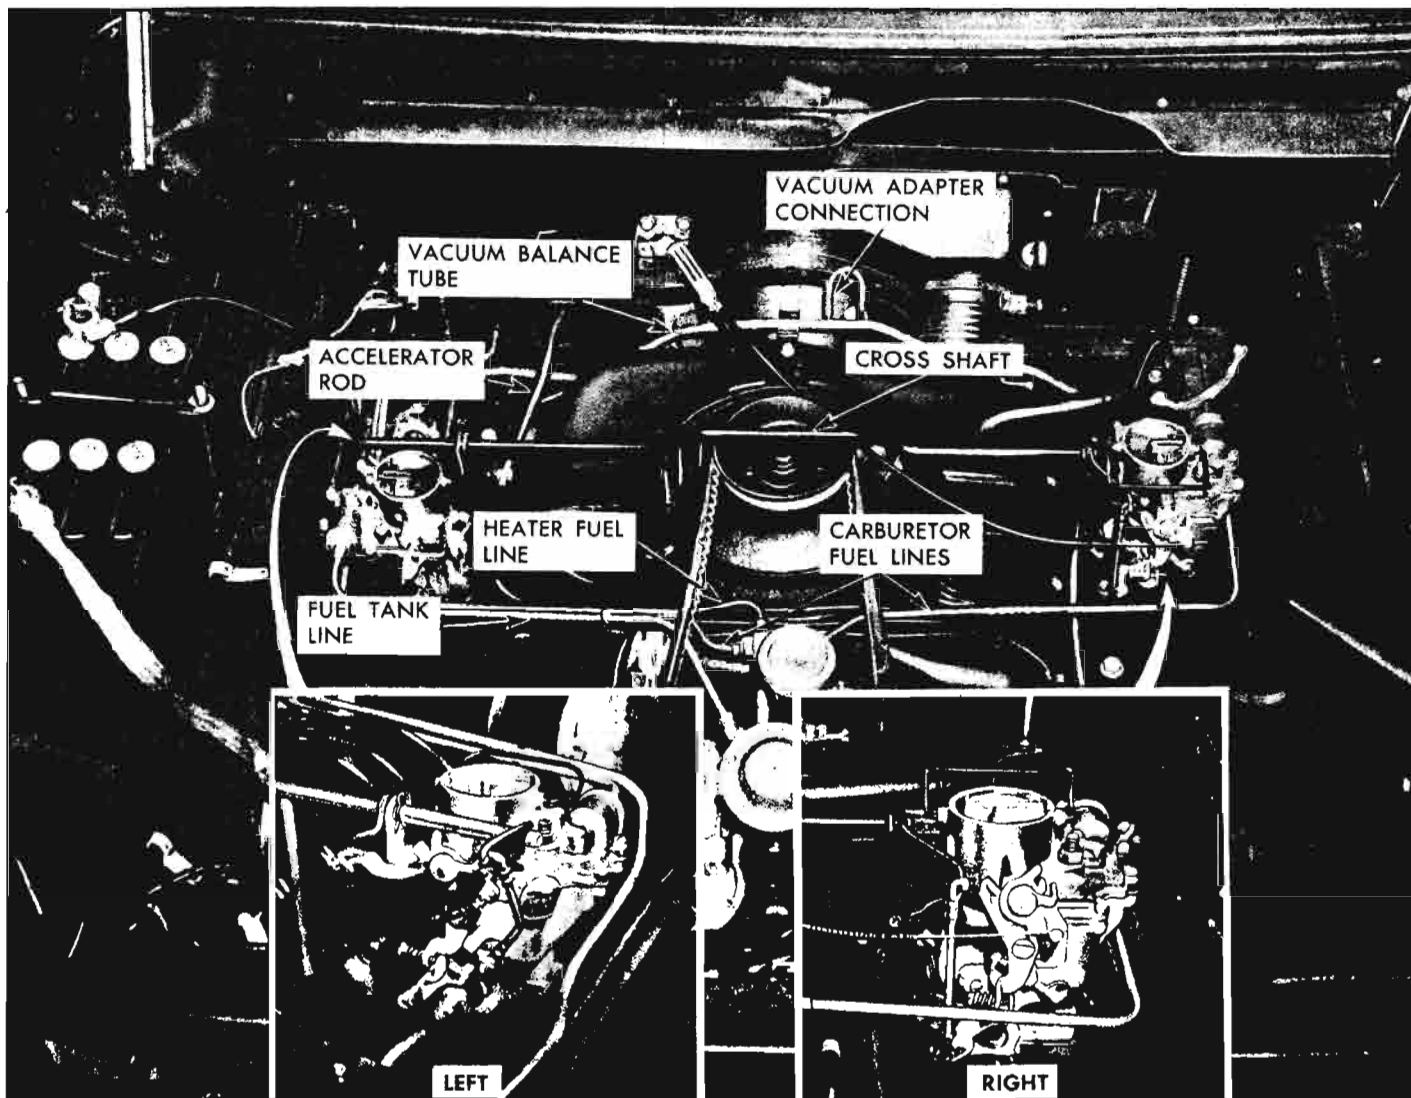

Fig. 9-11—Cross-Shaft and Linkage to Carburetors
- Left Carburetor—Rotate carburetor cross shaft (with accelerator rod—fig. 9-11) to ensure positive closing of the right carburetor throttle valve. Adjust throttle rod length in swivel until rod freely enters hole on carburetor cross-shaft lever and secure rod with retainer clip.
- Connect vacuum gauge to adapter (fig. 9-11) on vacuum balance tube. (Remove transmission vacuum line on automatic transmission and cap on synchromesh from balance tube adapter.)
- Move accelerator rod (fig. 9-11) to obtain 1200 rpm (all transmissions in neutral).
CAUTION: When making linkage adjustments, accelerate engine by moving accelerator rod only (fig. 9-11). Do not open throttle by grasping other portions of linkage or this may upset geometry and synchronization.